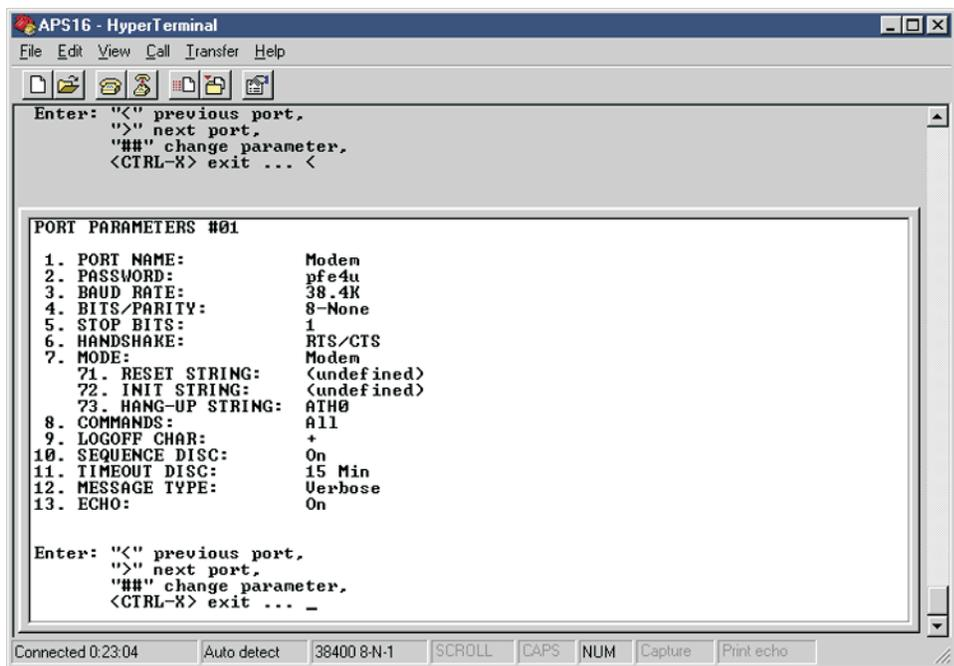

Figure 60. WTI Port Parameters #01 Screen (FC2711)
32. Verify that items 1 and 7 are set to 'Modem', item 2 is set to 'pfe4u' (or the customer password), items 71 and 72 are set to '(undefined)', and item 73 is set to 'ATH0.' If any of these items is not set correctly, set it again before you continue. The screen should look like Figure 60.